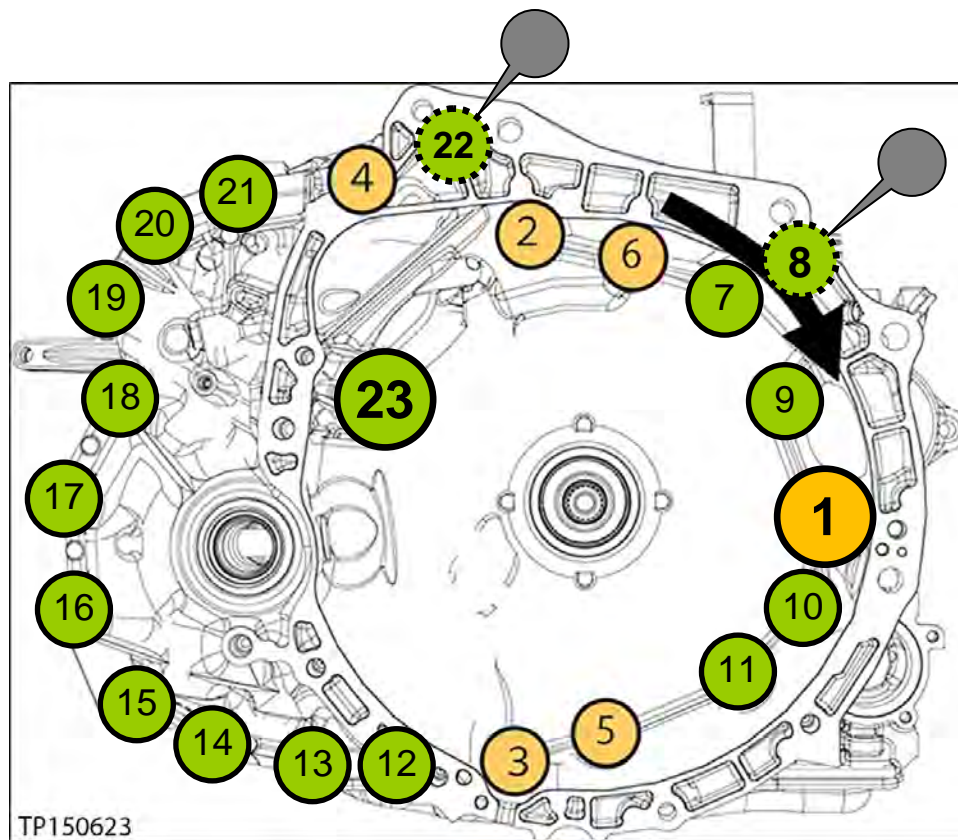

Figure 81
- a. Torque the first six (6) bolts with symbol  in numbered sequence (see Figure 81).
- b. Torque the remaining bolts with symbol  in numbered sequence (see Figure 81).
IMPORTANT: Make sure to torque the bolts in the sequence shown in Figure 81 ONLY.